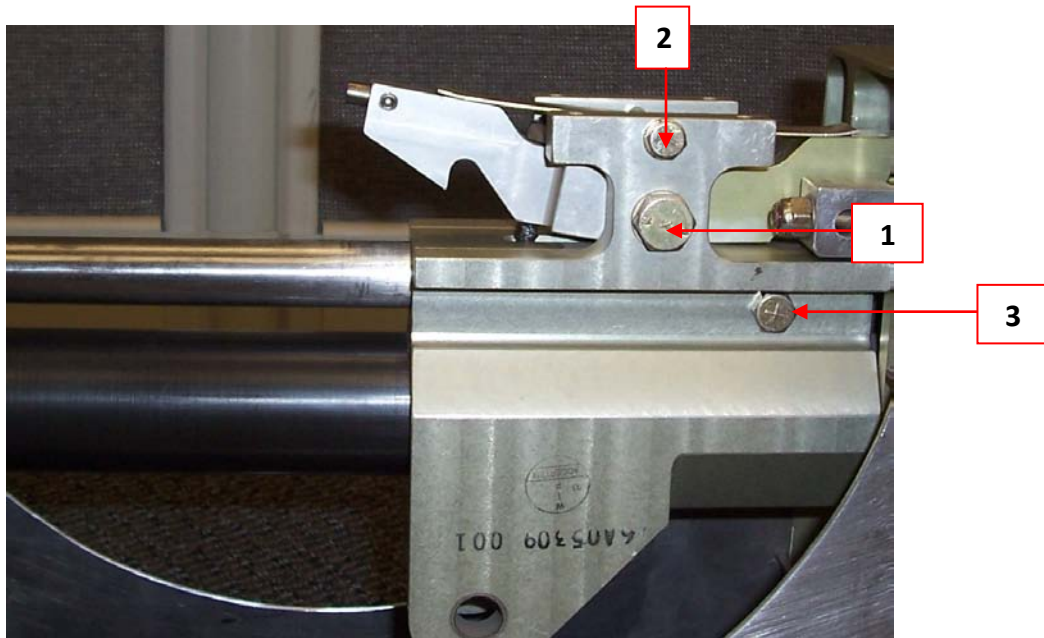

FIGURE 1
2. Remove the main ram catch bolt (Item 3, Figure 1). Lift the down lock and the ram will slide out.
**MAKE SURE NOT TO OVER-TIGHTEN THE TROLLEY BOLT (Item 1&2, Figure 1). THE LOCKING LATCHES SHOULD MOVE FREELEY AFTER THE BOLTS ARE SNUG.**